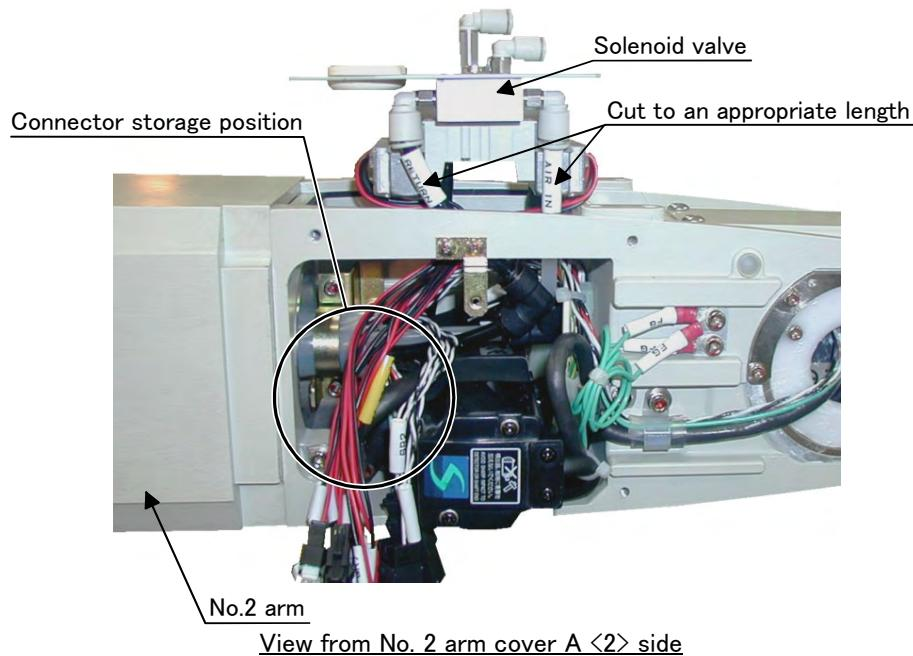

Fig.3-2 : Solenoid valve installation diagram details 1
Fig. 3-1 and **Fig. 3-2** shows the solenoid valve installation procedures and the solenoid valve connector connection procedures. The installation procedures are as follow. This work must be carried out with the controller power turned OFF.
- 7) Connect the connectors of "GR1" and "GR2" stored in section A to the plugs of "GR1" and "GR2" coming out of the solenoid valves. Store the connectors near the location marked with O shown in **Fig. 3-2**. **Fig. 3-2** shows a view when stored.